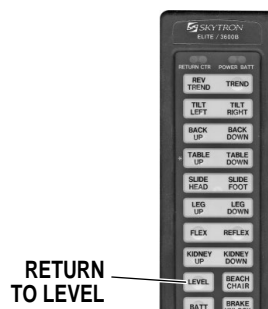

Figure 2-14. Return To Level
**j. Return To Level.** To return the table top to a level position, press the LEVEL button (figure 2-14).